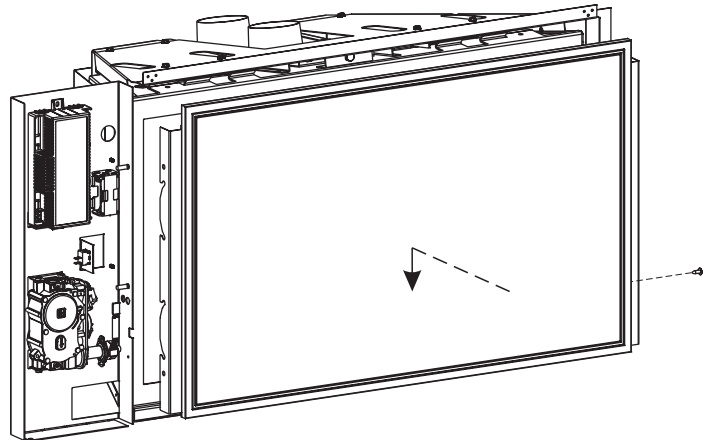

Figure 17
6. Place the screen on the four pegs (two each side) on the firebox. Secure with screw as shown in Figure 17.